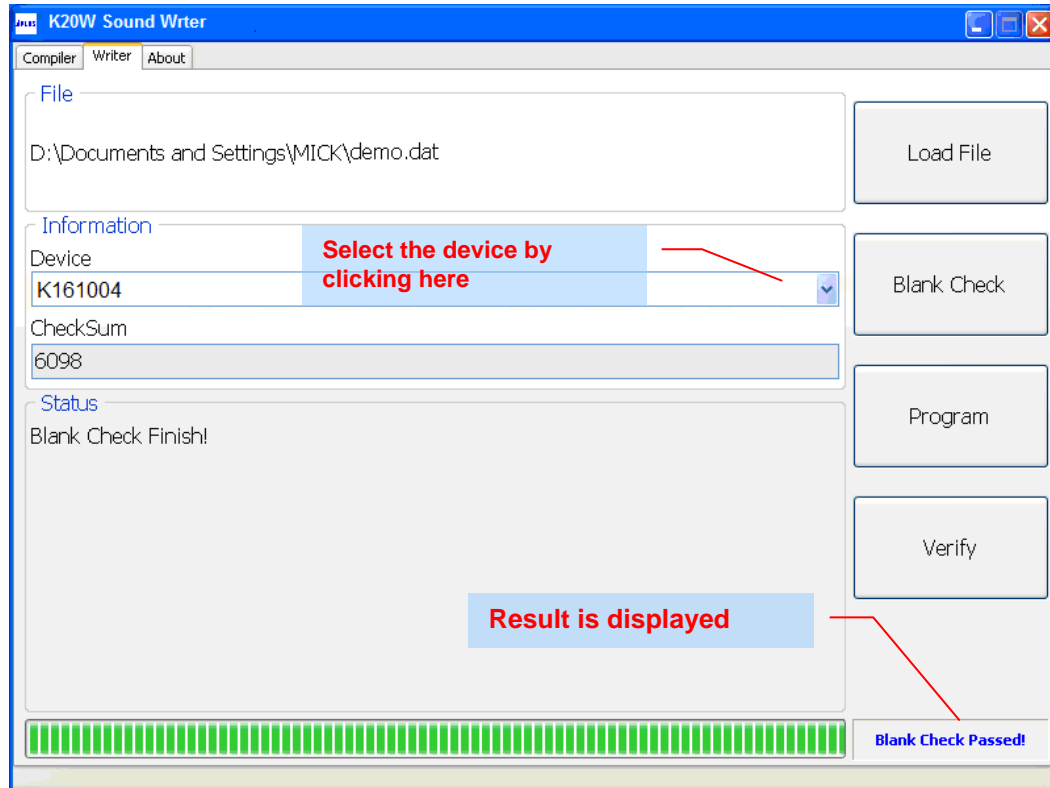

Fig. 9
- **Blank Check:** To Blank check the inserted voice chip (Fig. 9 to 10)